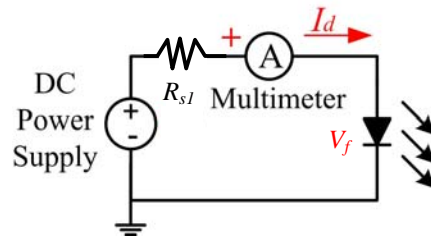

Figure 8: Test setup for characterization of LED diode
1. Randomly choose a LED diode D_2 . Connect it with multimeter (current measurement) and DC power supply as shown in Figure 8. Use R_{s1} of 47Ω . Change DC power supply value to make LED diode current 10mA.